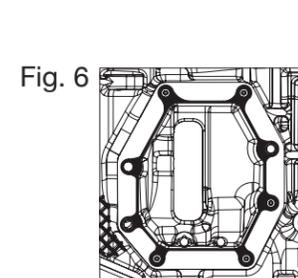

Fig. 6
**5.** Install Ford gasket over shoulder studs. See Figure 6. A thin coating of Ford transmission fluid on gasket is recommended to help hold gasket to opening. Mount PTO using provided fasteners (5 cap screws/washers and 2 nuts/studs) – hardened washers are used on cap screws only! Check for proper PTO fit on transmission prior to tightening down fasteners. Tighten 2 o'clock and 7 o'clock cap screws first. **TORQUE ALL CAP SCREWS TO 30 FT.LBS. TORQUE STUD NUTS TO 22 FT.LBS. See Figures 7 and 8.**